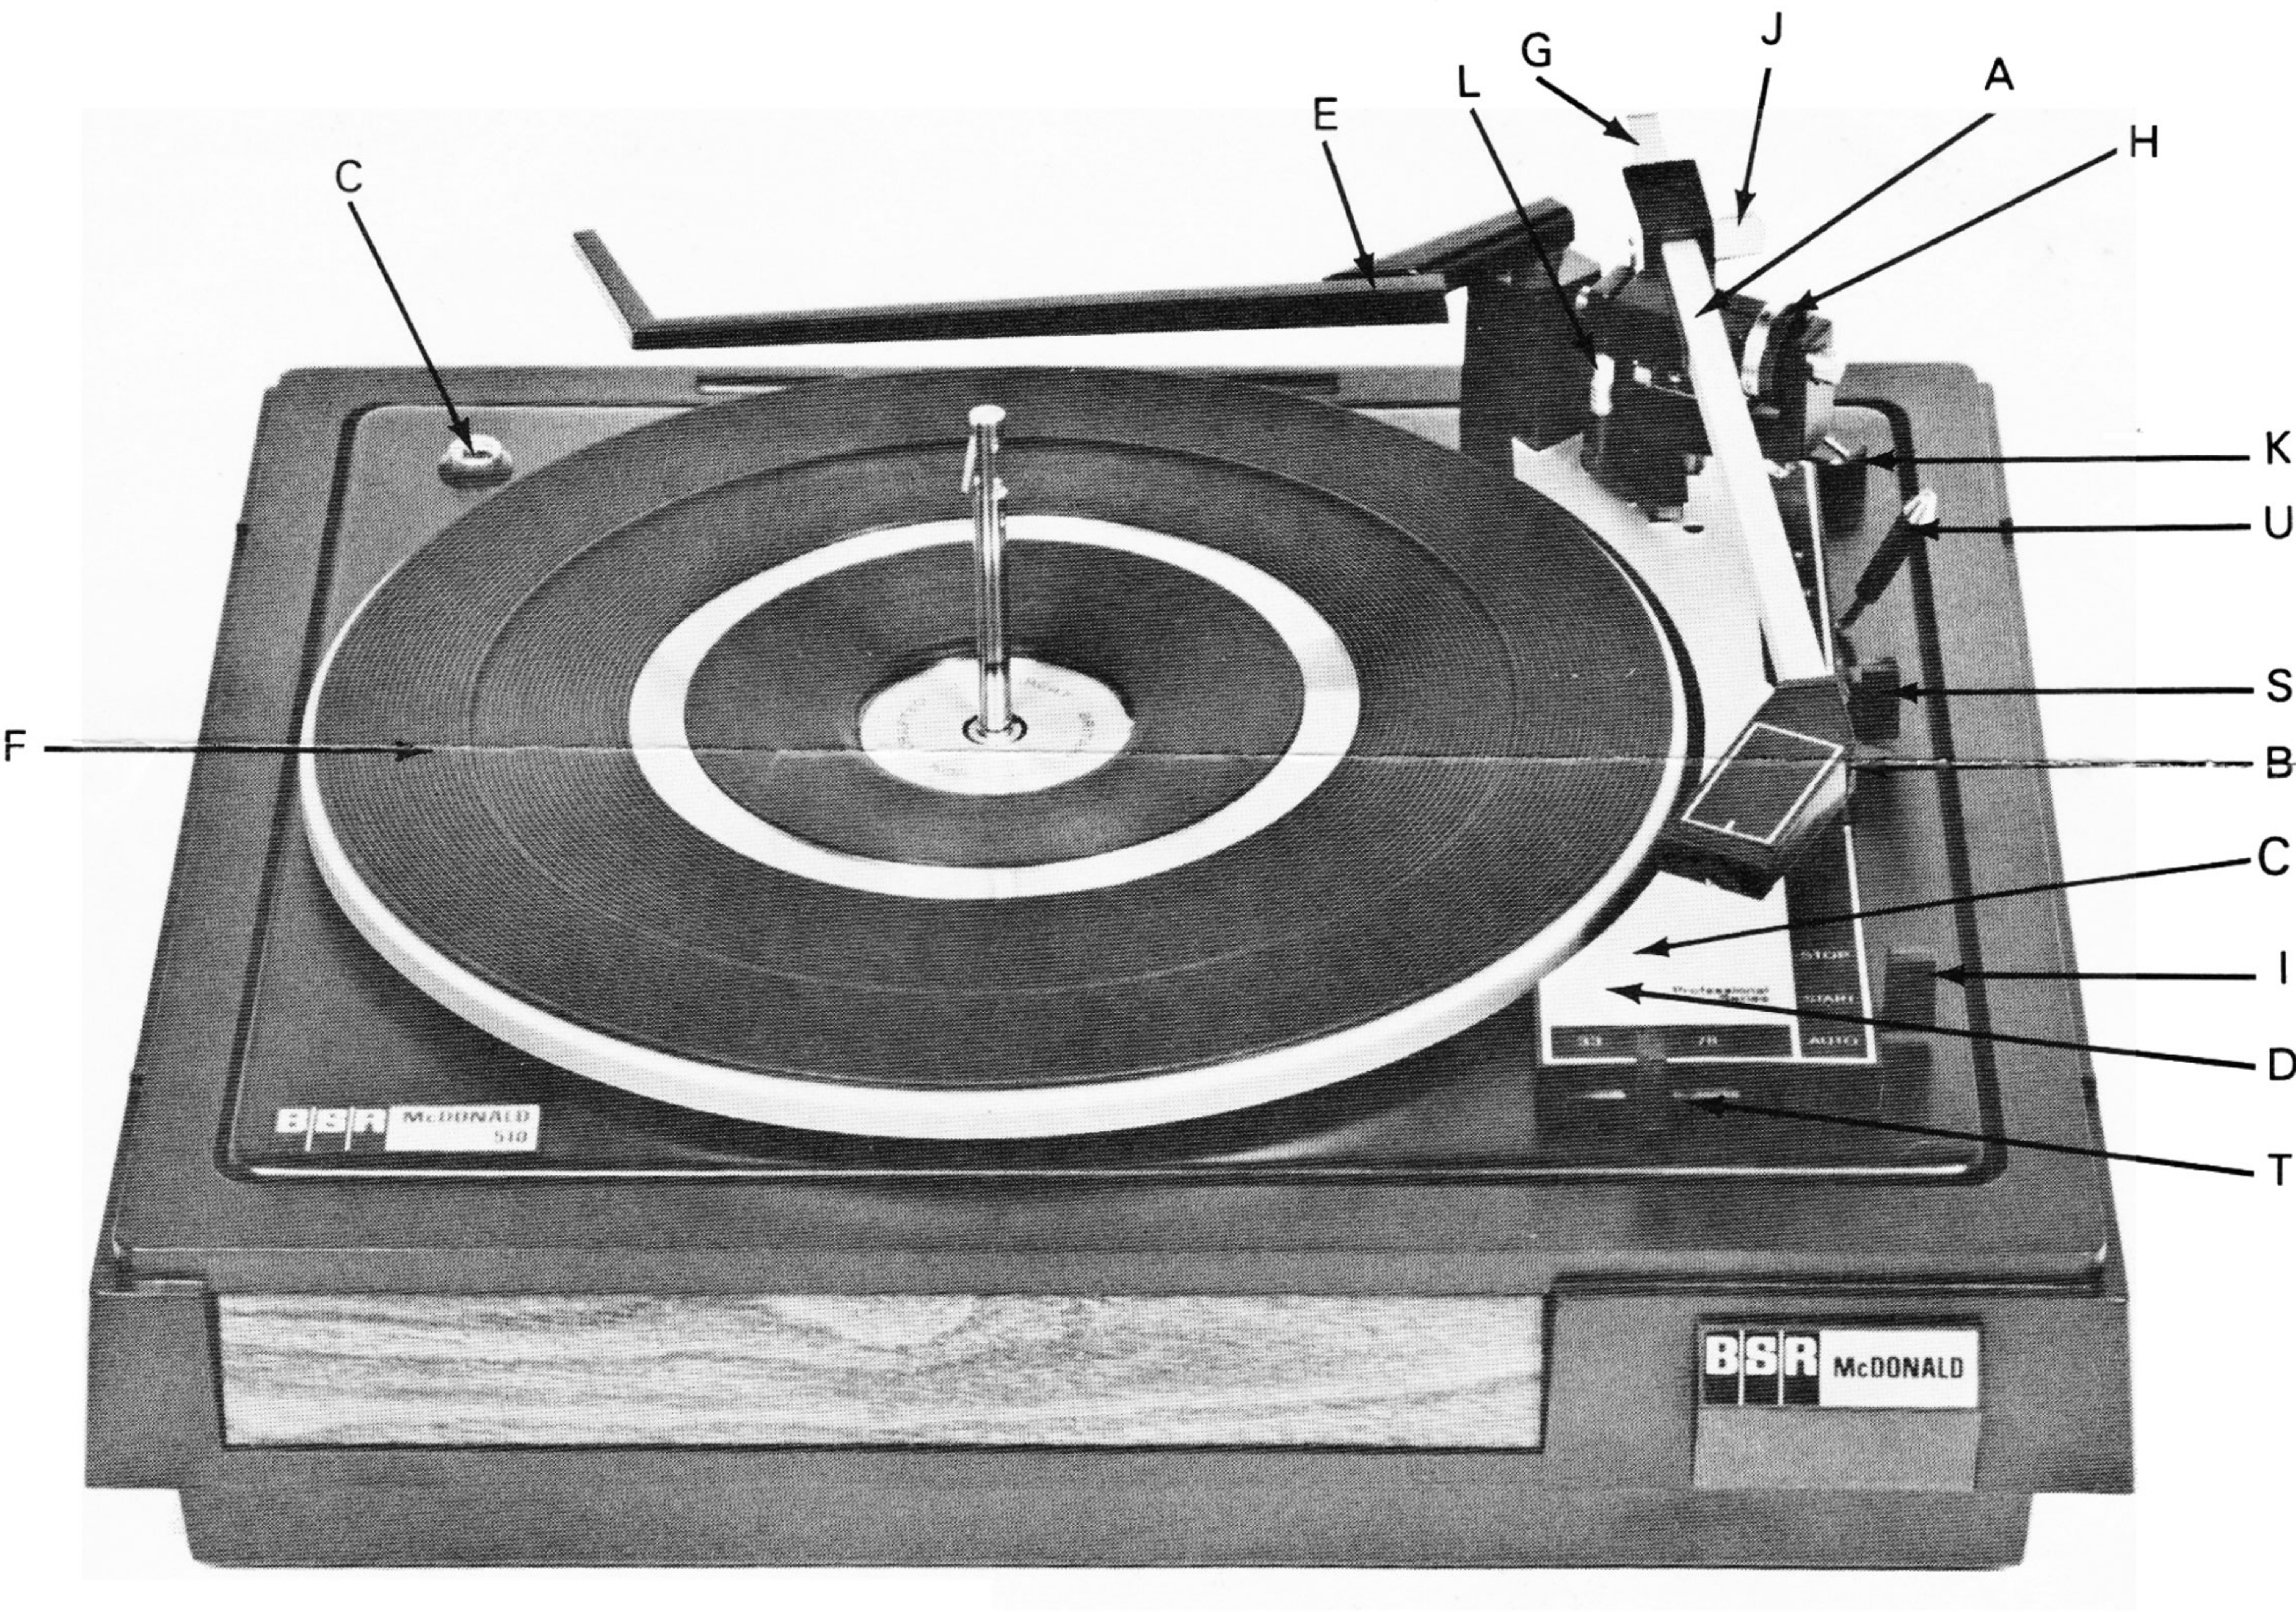

Fig. 7
### 2. CONTROL ARM (Refer to Fig. 7)
2. Return control arm to center or to the back position as shown in Fig. 7 and lower to down position.